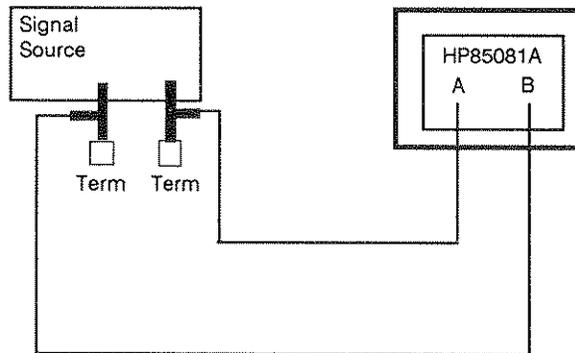

Figure 4-4. Phase Offset Accuracy Setup
1. Configure the equipment as shown in Figure 4-4, with the probe tees connected directly to the source output via the adaptors.